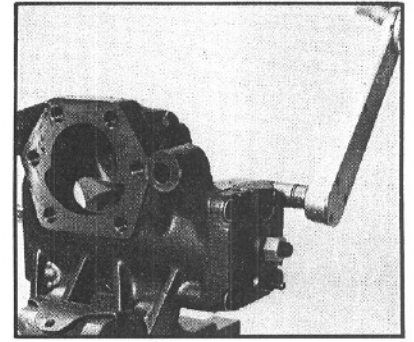

Figure 113
15. Install the four end cover bolts (41; 2.625 in. long) and washers (41A), and torque the bolts to 105-115 ft. lbs. (FIG. 113).